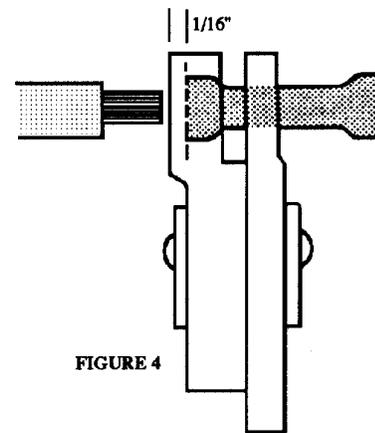

FIGURE 4
2. Insert butt splice into crimping jaws 1/16 of an inch from outside surface of insulation crimping die. (See Figure 4)